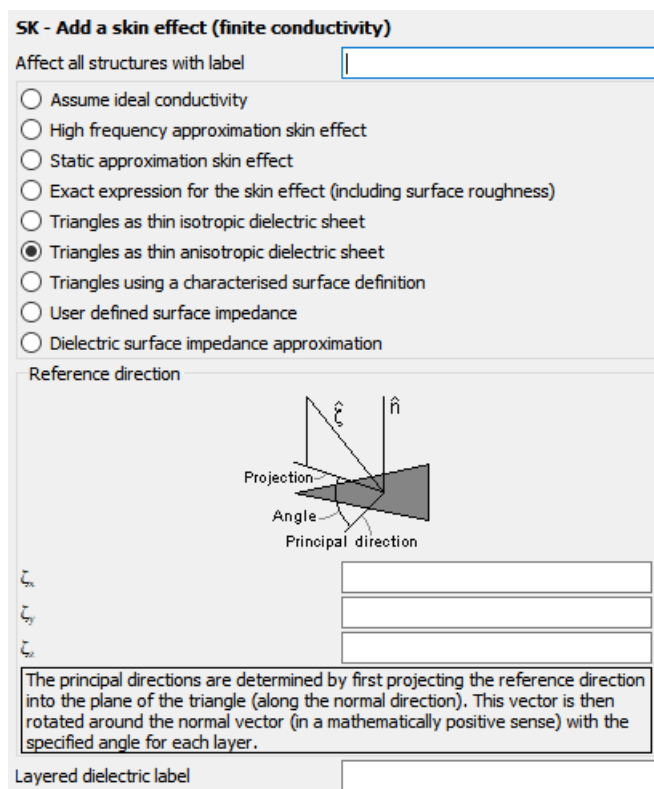

Figure 955: The **SK - Add a skin effect (finite conductivity)** dialog.
The principal direction in each layer is defined by the angle  $a$  (see **Angle** in the Figure 955) relative to the projection of the vector  $\zeta$  (**Reference direction** group) onto the plane of the triangle (in the DI card). Here  $a$  is measured in the mathematically positive sense with respect to the normal vector of the triangle.
- Reference direction**                      The X, Y and Z components of the vector  $\zeta$  (used to define the principal direction, see Figure 955).